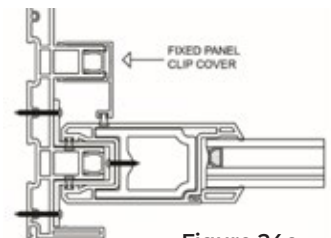

Figure 24c
3. **Snap** the fixed panel clip cover (Item 16) in to place covering the open frame channel (Figure 24c).